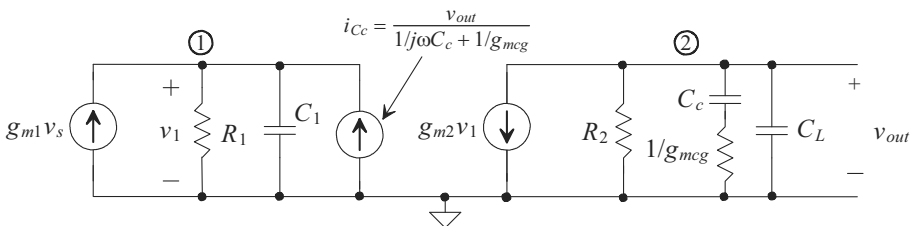

Figure 24.64 Model used to estimate bandwidth when indirect feedback current. See Problem 24.5.
- 24.5** When we derived Eq. (24.24), we lumped C_c into C_2 and neglected the effects of MCG. A more accurate model for the indirect compensation, assuming $C_L \gg$ the output capacitance of the amplifier, is seen in Fig. 24.64. Using this model, estimate the location of the output pole.